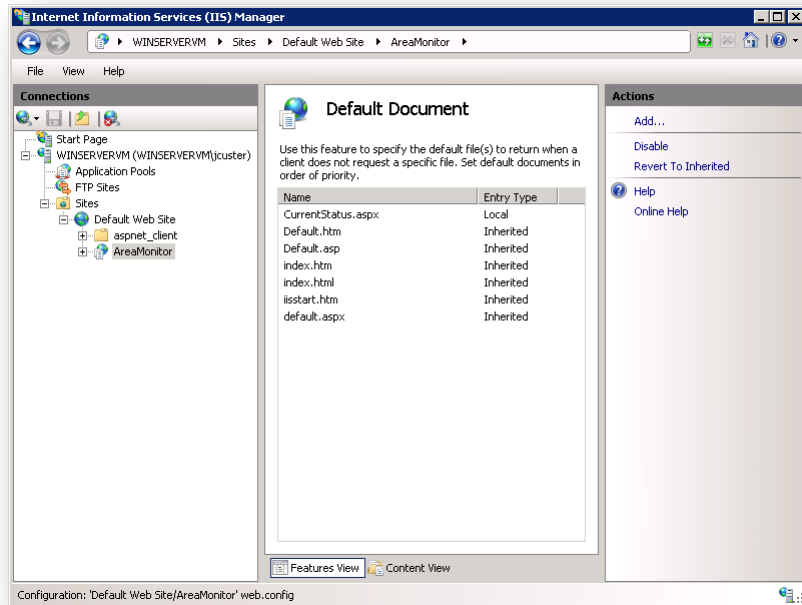

Figure 90 – Default Document for AreaMonitor application
15. In the right pane of the IIS Manager window, click “Apply” to accept the change. Your screen should resemble Figure 90.